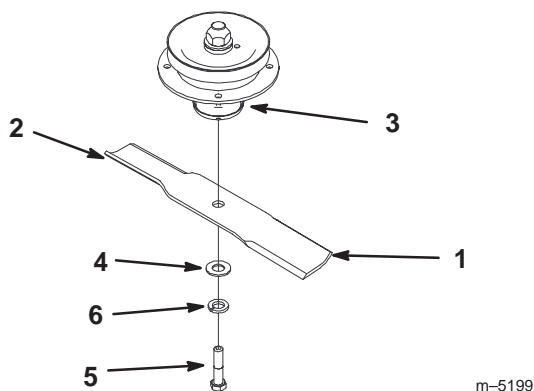
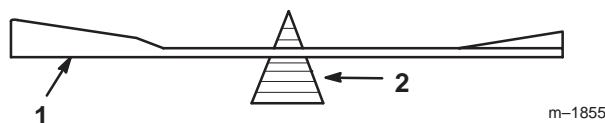

Figure 45
Figure 47
1. Hold the blade end using a rag or thickly-padded glove. Remove the blade bolt, washer, lock washer and blade from the spindle shaft (Fig. 45).
2. Check the balance of the blade by putting it on a blade balancer (Fig. 47). If the blade stays in a horizontal position, the blade is balanced and can be used. If the blade is not balanced, file some metal off the end of the sail area only (Fig. 45). Repeat this procedure until the blade is balanced.
1. Install the blade onto the spindle shaft (Fig. 45).
Important The sail part of the blade must be pointing upward, toward the inside of the mower to ensure proper cutting (Fig. 45).
2. Install the washer, lock washer and blade bolt (Fig. 45). Torque the blade bolt to 85–110 ft-lb (115–140 N•m).